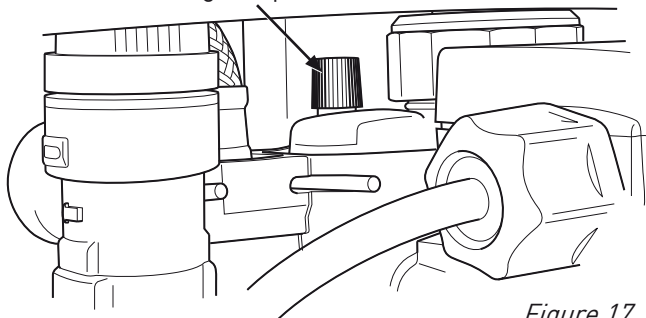

Figure 17
12.3 Release the cover cap of the boiler's automatic air vent situated on top of the pump. (Figure 17)